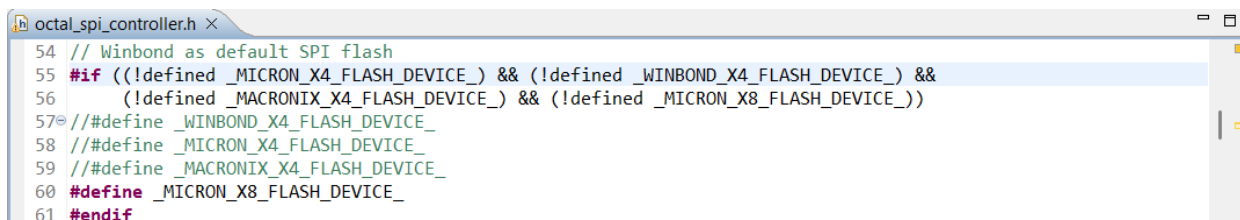

Figure C.1. SPI Flash Manufacturer Changes in `octal_spi_controller.h`
2. Change the flash define parameter in `octal_spi_controller.h` to the respective SPI flash model (see Figure C.1).